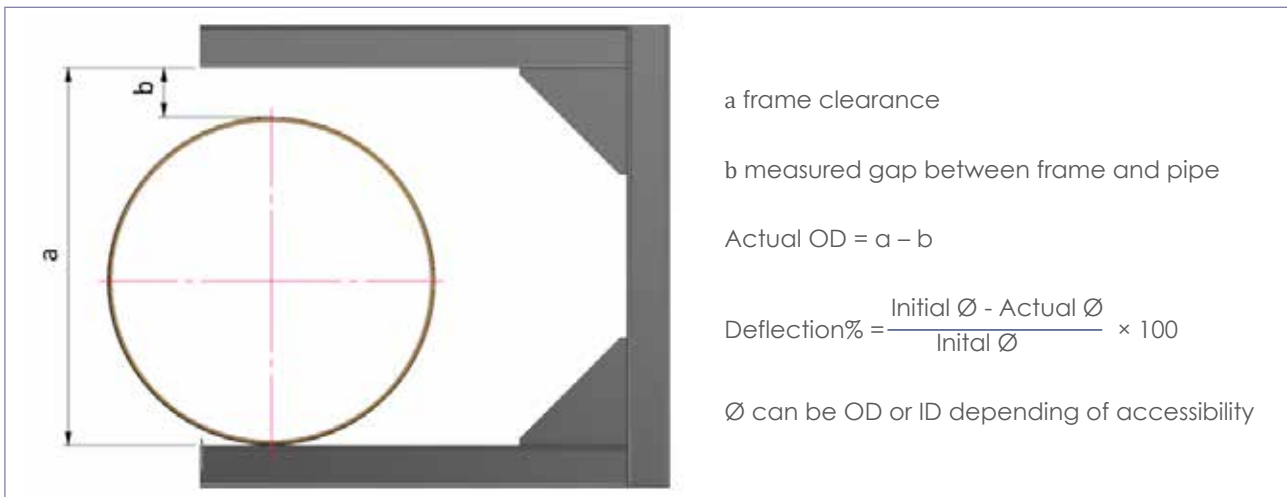

Figure 41 – Measuring maximum diameter of installed pipe
- For pipes that are not accessible from the inside, the maximum outer diameter may be measured by applying a rigid frame (see Figure 41).